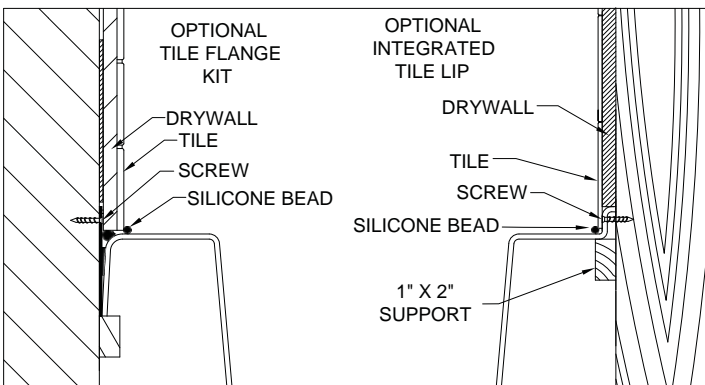

Figure 1
3. 100% Silicone with mildew-resistant properties should be applied between the water-resistant backer board and the deck of the bath. Note: If you use a tile flange kit, modify the framing to support the bath lip as shown in **Figure 1**.
3. Refer to **Figure 1** on fastening the flange clips to the studs and sealing.